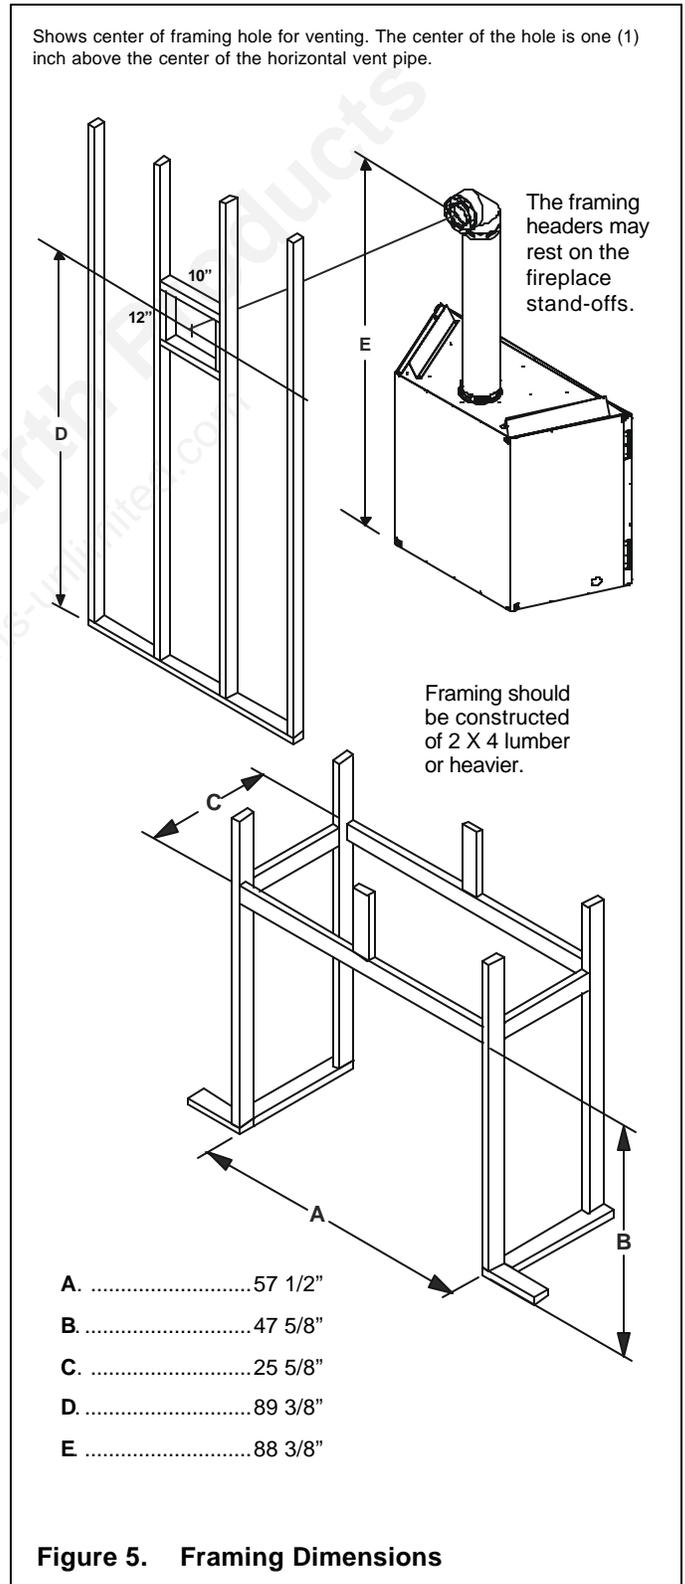

**Figure 4. Non-combustible zone**
\* When using DVP-Series pipe additional clearance and/or installation of a heat shield is required above the first 90° elbow (see Figure 4).
**NOTE:** When venting with a 3 foot vertical and 90° elbow as the first two vent components, the non-combustible zone is the entire width and depth of the firebox from the top of the fireplace to 3" above the horizontal vent. This area must remain free of combustibles (see Figure 4).